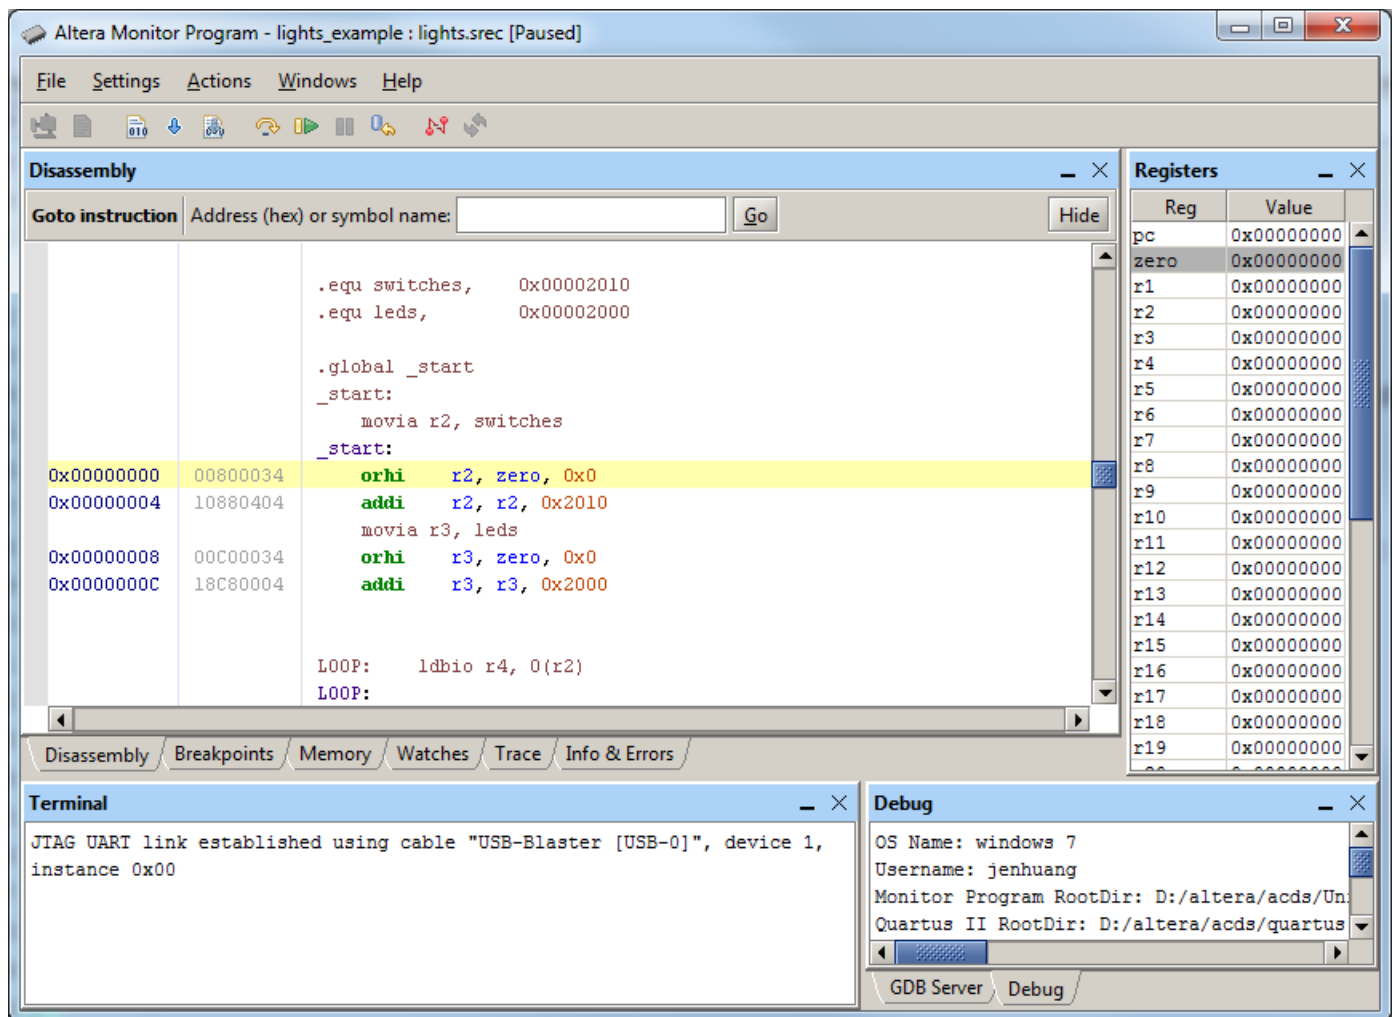

Figure 32. Display of the downloaded program.
10. The downloaded program is shown in Figure 32. **Run the program and verify the correctness of the designed system by setting the slider switches to a few different patterns.**